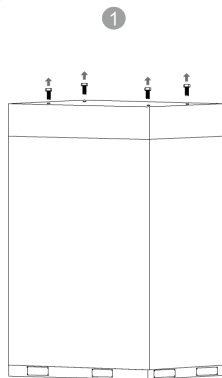

Figure.1
1. Remove four hexagon screws that are preset at the factory to prevent dust or other foreign objects entering the equipment. See the Figure.1.